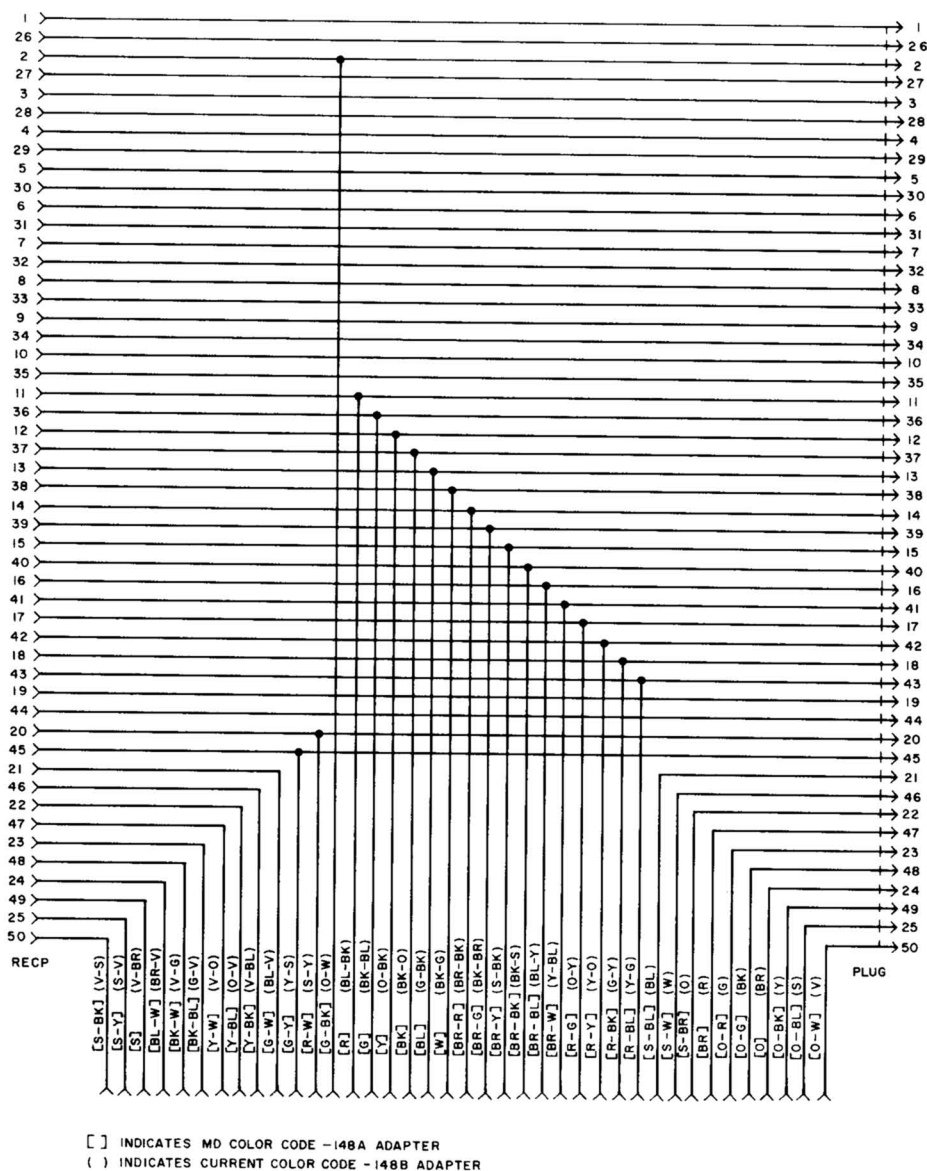

Fig. 2—148A (MD) or 148B Adapter, Schematic
- Pins 1 through 20 and 26 through 45 of the 50-contact plug are interwired by strapping to corresponding pins of the 50-contact receptacle through the Y arm of the cord (Fig. 2).